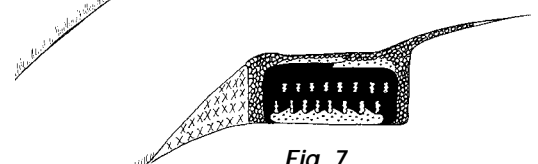

Fig. 7
7. Spread trap rock evenly over the System from the top of the mound to the top edge of the uphill swath. (See Fig. 7)